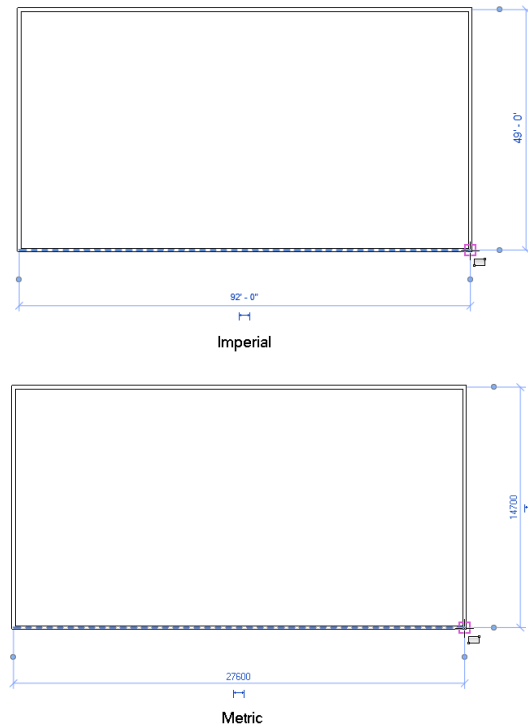

Figure 3-59 The temporary dimensions being displayed on the wall sketched
3. Move the cursor to the right until the temporary dimension appears and click to draw a rectangle of any dimension, as shown in Figure 3-59. Note that, if the dimension is not displayed, you need to click on the created wall to display the dimensions.